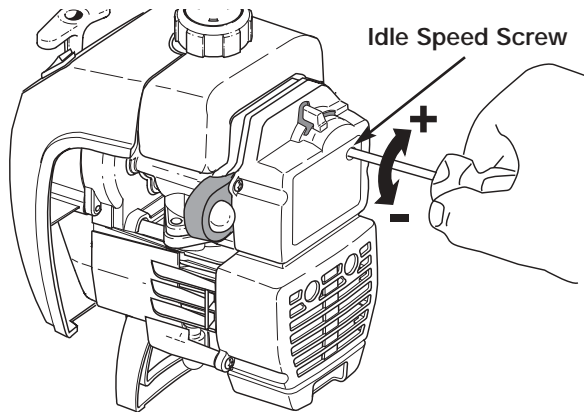

FIGURE 26
The idle speed of the engine is adjustable through the air filter/muffler cover, Figure 26.
2. Release the throttle trigger and let the engine idle. If the engine stops, insert a small phillips or flat blade screwdriver into the hole in the air filter/muffler cover, Figure 26. Turn the idle speed screw in, **clockwise**, 1/8 of a turn at a time (as needed) until the engine idles smoothly.